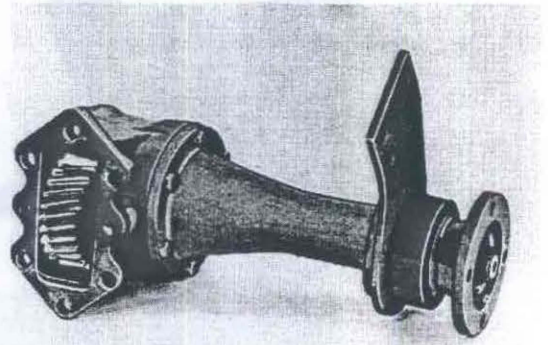

Fig. 46-134. Power take-off
3. Fit the bolts round the casing. Remove the guide pins. Tighten the bolts to a torque of 100-120 Nm (10-12 kpm = 72-87 lbftf). Use 6135, see Fig. 46-134. Remove the jack.